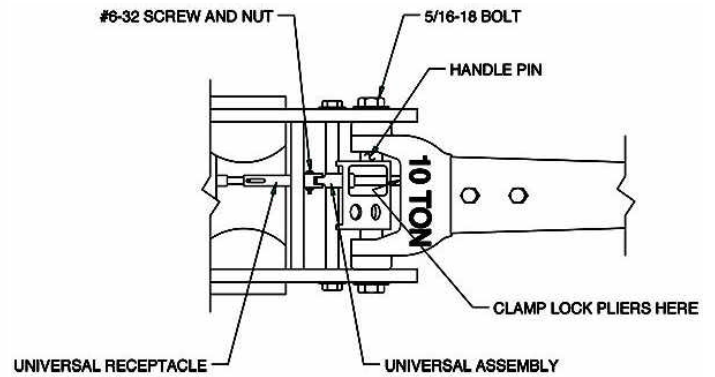

Figure 2 - YA660B / YA662B
- fork. For YA660B and YA662B (as shown in figure 2) remove the 5/16-18 bolts and the pin from the jack base that connects through the handle fork.